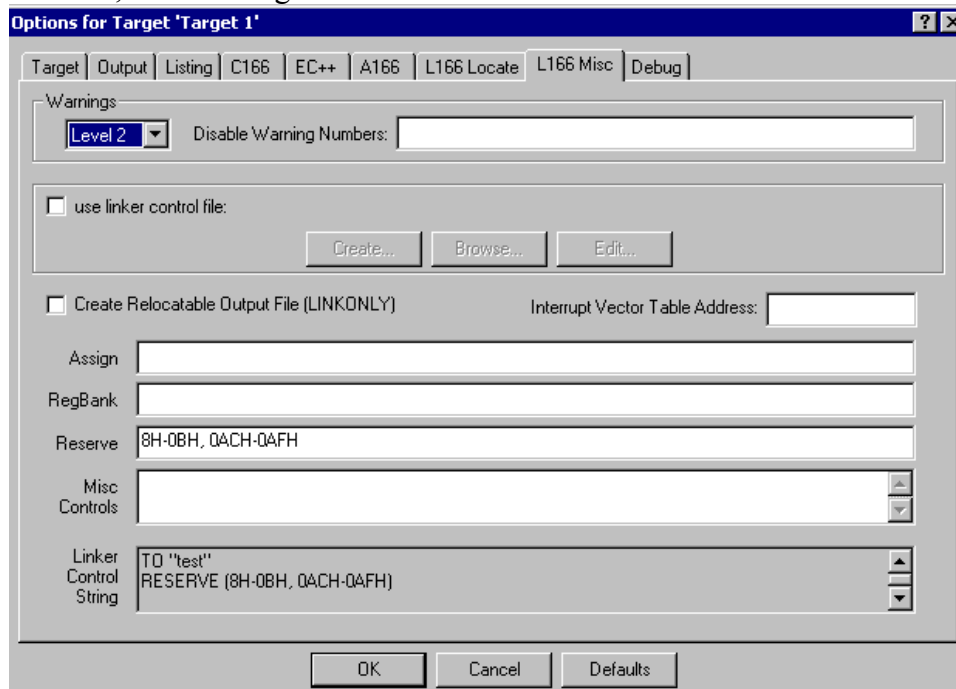

Figure 10. Reserving memory for the monitor
1. First, let us reserve some memory for the monitor. Click on OK to close the Monitor Driver Settings window and click on the **L166 Misc.** tab. Type the values in the Reserve field, shown in figure 10.